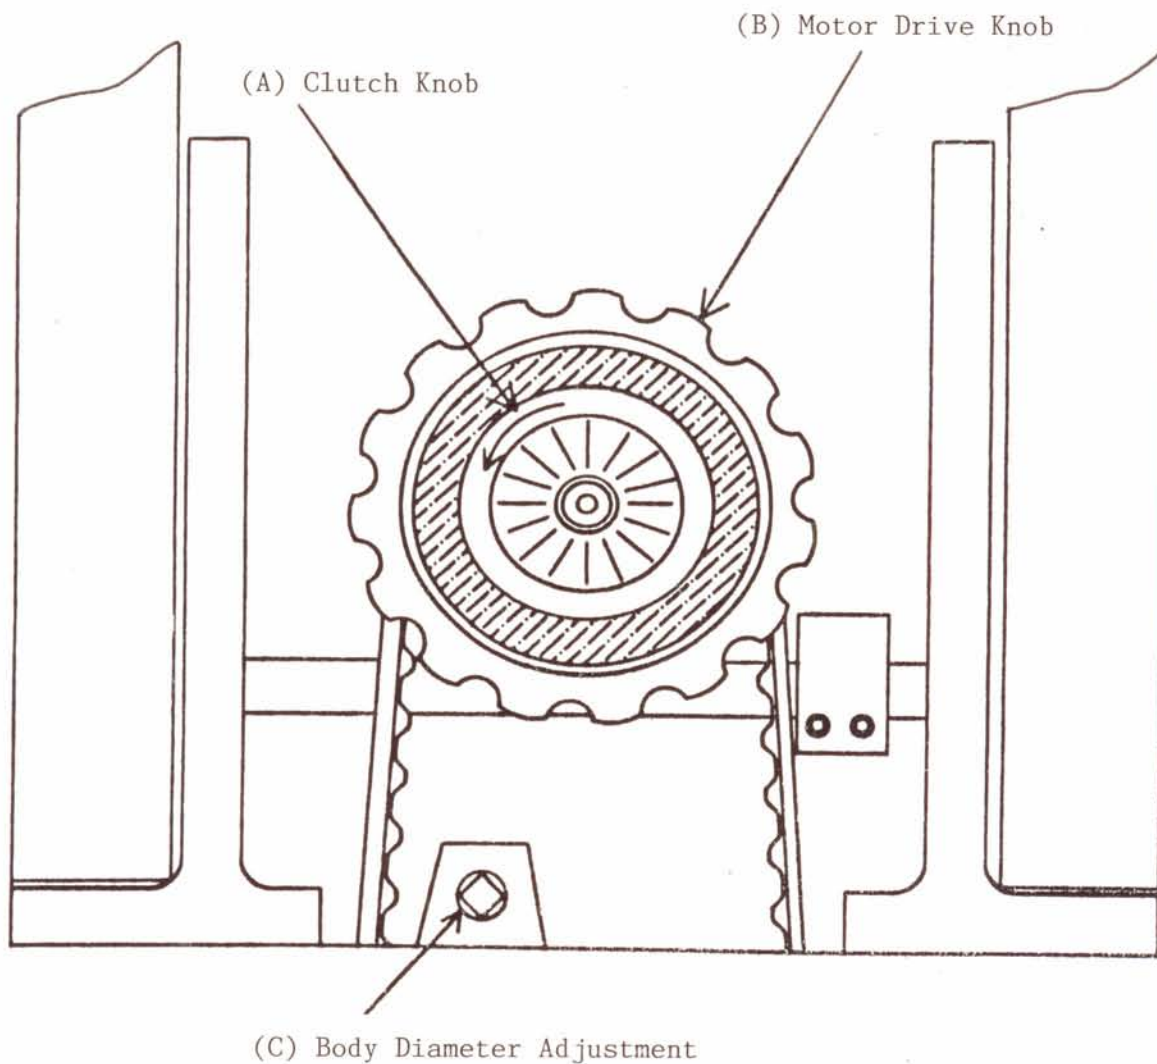

Figure 2
1. Loosen the clutch knob (figure 2, item A) and turn the motor drive knob (figure 2, item B) until the pressure wedge plate is at it's uppermost stroke position.
3. Loosen the two black knobs (figure 1, item D) securing the body diameter adjustment. Using the "T" wrench provided turn the body diameter adjustment (figure 2, item C) until the dial indicator (figure 1, item O) reads 3.0mm.
Measure the component body diameter to determine the the adjustment setting. Loosen the two black knobs (figure 1, item D) securing the body diameter adjustment. Using the "T" wrench provided turn the body diameter adjustment (figure 2, item C) until the dial indicator (figure 1, item O) reaches the desired setting.